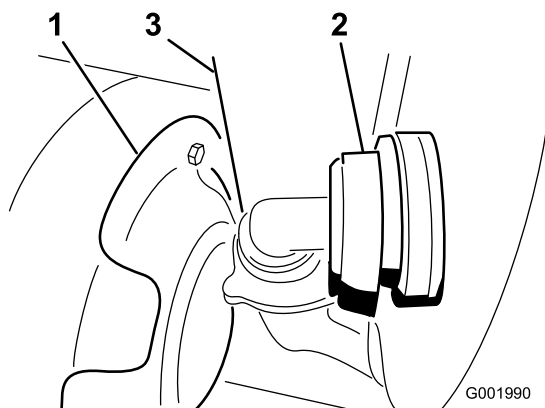

Figure 57
3. Disconnect the hose located on the lower-front face of the tank (Figure 57).
Note: You may need to push the heat shield (Figure 57) back as you remove the cover.